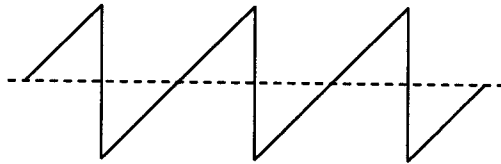

Figure 3.1
4. On the oscilloscope verify that the waveform shape resembles the waveform in Figure 3.1.